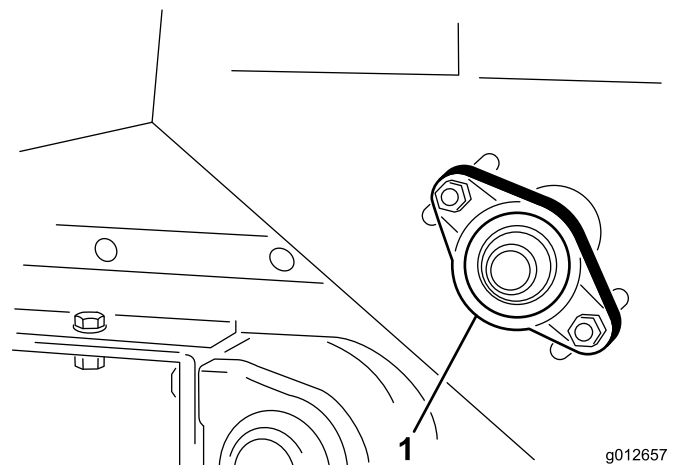

Figure 37
1. Loosen nuts that secure the bearing housing (Figure 37) to right side of machine.